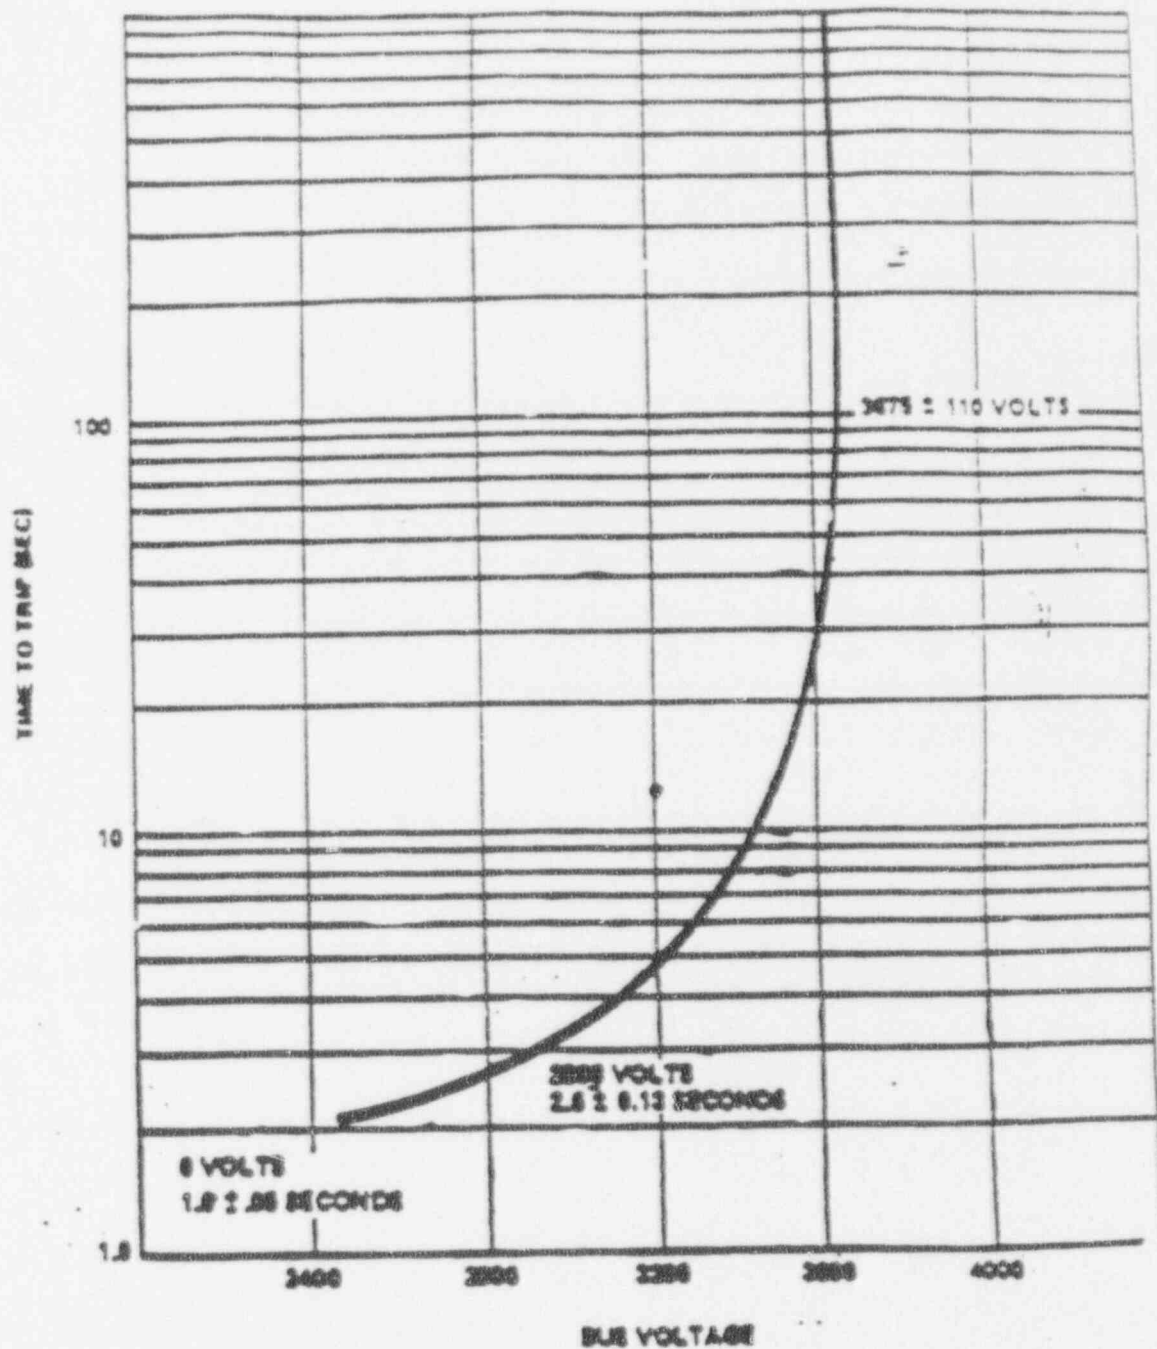

Figure 3.3-1
- (1) Value may be decreased manually, to a minimum of greater than or equal to 300 psia, as pressurizer pressure is reduced, provided the margin between the pressurizer and this value is maintained at less than or equal to 400 psia;* the setpoint shall be increased automatically as pressurizer pressure is increased until the trip setpoint is reached. Trip may be manually bypassed below 400 psia; bypass shall be automatically removed whenever pressurizer is greater than or equal to 400 psia.
- (2) Value may be decreased manually as steam generator pressure is reduced, provided the margin between the steam generator pressure and this value is maintained at less than or equal to 200 psi;* the setpoint shall be increased automatically as steam generator pressure is increased until the trip setpoint is reached.
- (3) % of the distance between steam generator upper and lower level instrument nozzles.
- (4) ~~Inverse time relay set value 3165, trip will occur within the tolerances specified in Figure 3.3-1 for the range of bus voltages, deleted~~
- (5) Actuated equipment only; does not result in CIAS.
- (6) The trip setpoint shall be set sufficiently high to prevent spurious alarms/trips yet sufficiently low to assure an alarm/trip should an inadvertent release occur.
- (7) Prior to the completion of DCP 53N, the setpoints for Containment Airborne Radiation Monitor 2RT-7804-1 shall be determined by the ODCM.
- (8) The trip setpoint shall be set sufficiently high to prevent spurious alarm/trips yet sufficiently low to assure an alarm/trip should a fuel handling accident occur.